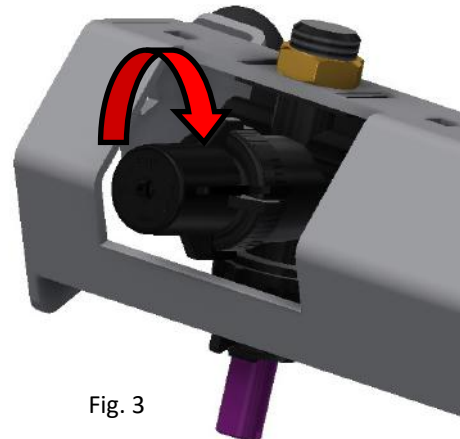

Fig. 3
**NOTE:** *The spray boom can also be operated with 4 nozzles by turning the valves off located on the spray nozzles (Fig. 3).*